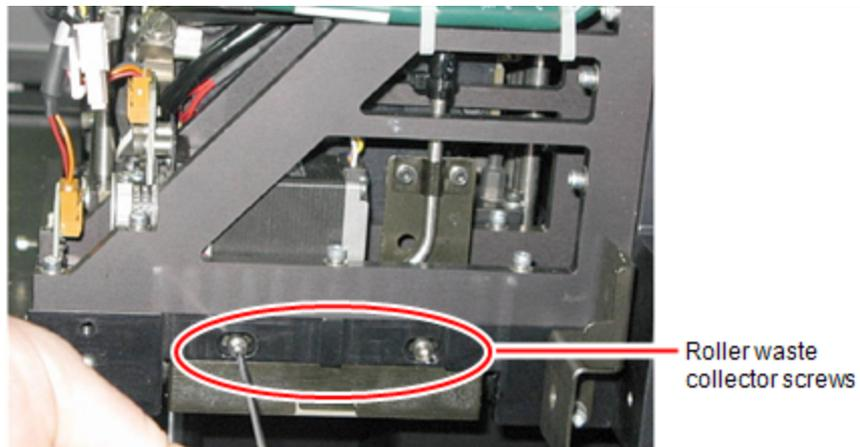

Figure 6-34 Removing the roller waste collector screws
1. Return the roller waste collector to the print block and screw on the covering (see Figure 6-34 on the previous page).